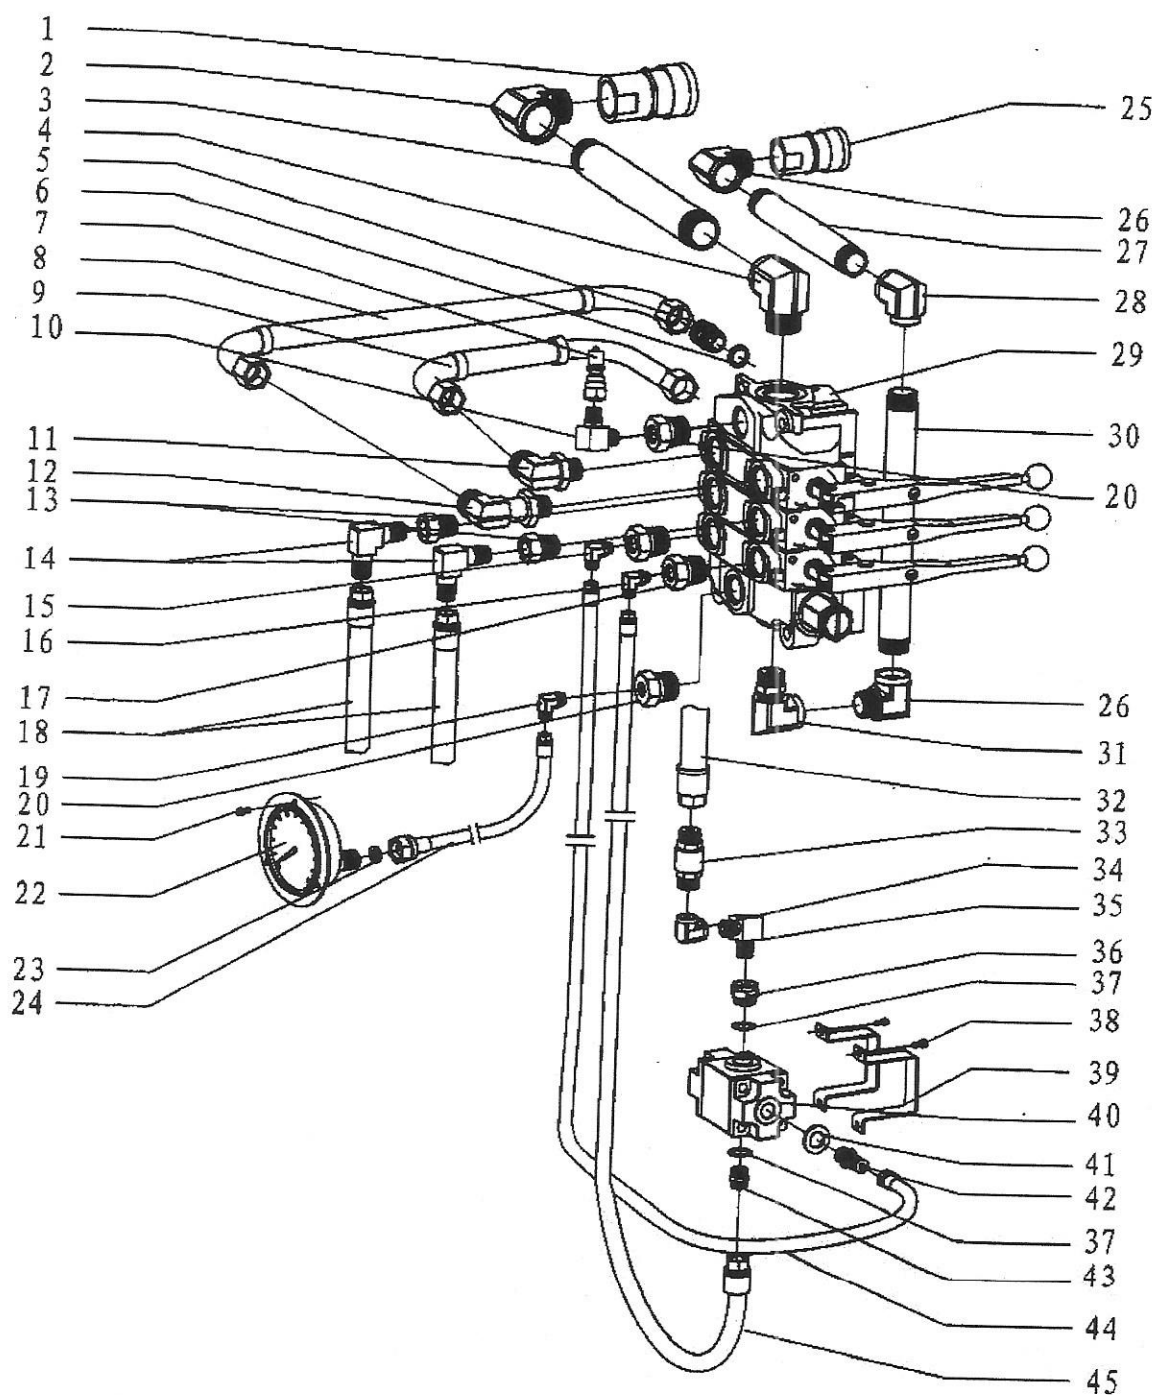

Fig. 12
9. Hydraulic pipeline (Fig 12, Table 9)